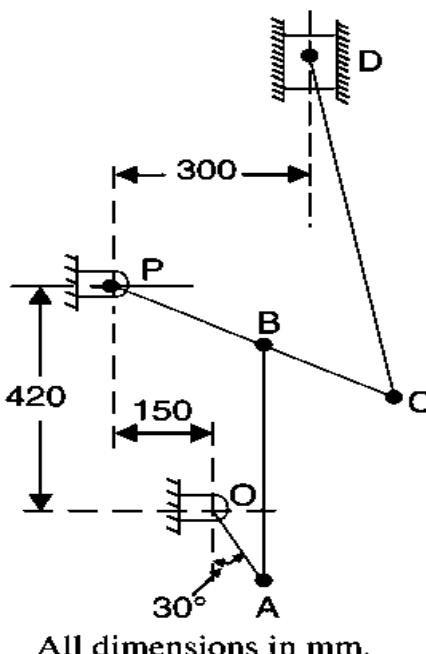

Fig. 2
- IV a.** A flat belt drives a pulley, the angle of the lap being  $120^\circ$ . The belt is 100 mm wide (10) and 6 mm thick. The density of belt material is  $1000 \text{ kg/m}^3$ . If the coefficient of friction is 0.3 and the maximum stress in the belt should not exceed 2 MPa, find the maximum power that the belt can transmit and the corresponding speed of the belt.
- Va.** Fig. 2 shows a mechanism in which crank OA rotates uniformly at 200 r.p.m. in the clockwise direction. The various lengths are: OA = 150 mm ; AB = 450 mm; PB = 240 mm ; BC = 210 mm ; CD = 660 mm. Determine the velocity of slider D using the Instantaneous center method and also compare answer with the relative velocity method for the mechanism given mechanism.